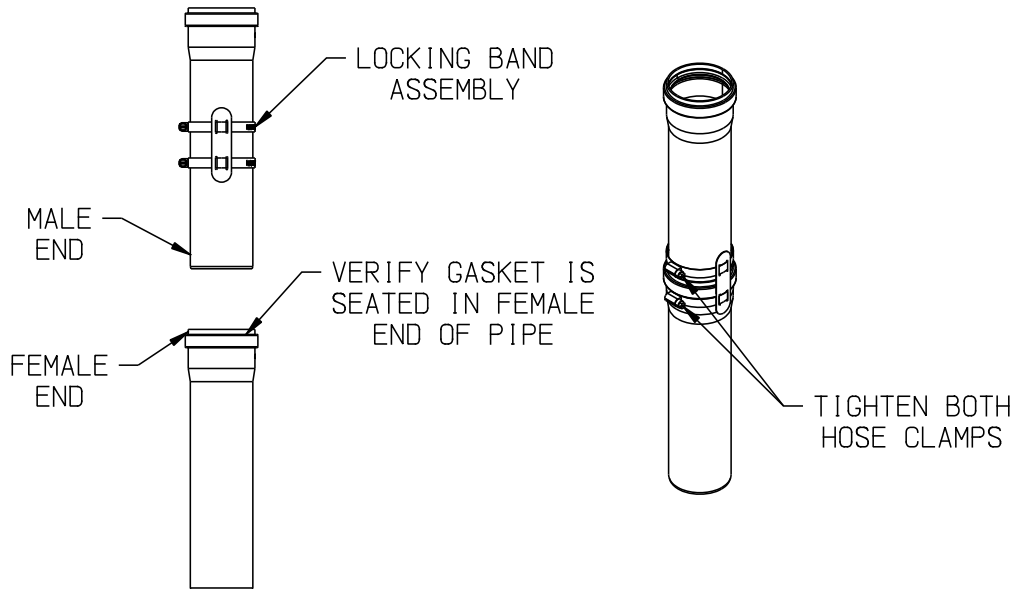

FIGURE 7.41: POLYFLUE PIPE LOCKING BAND INSTALLATION
- c. For each joint, verify that the gasket is evenly seated in the bell (female) end of the pipe. Lubricate this gasket with mild soapy water. Slide a Pipe Locking Band over the male end of the pipe to be joined as shown in Figure 7.41. Push the male end of the next section of pipe into the bell until it bottoms out, then back out 1/8—1/4" to provide room for thermal expansion. Slide pipe locking band over the female end of the connections and tighten both hose clamps.